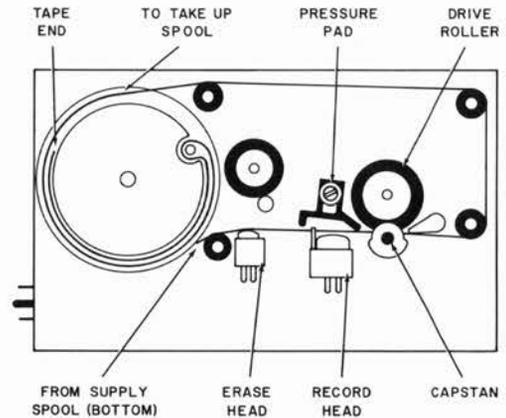
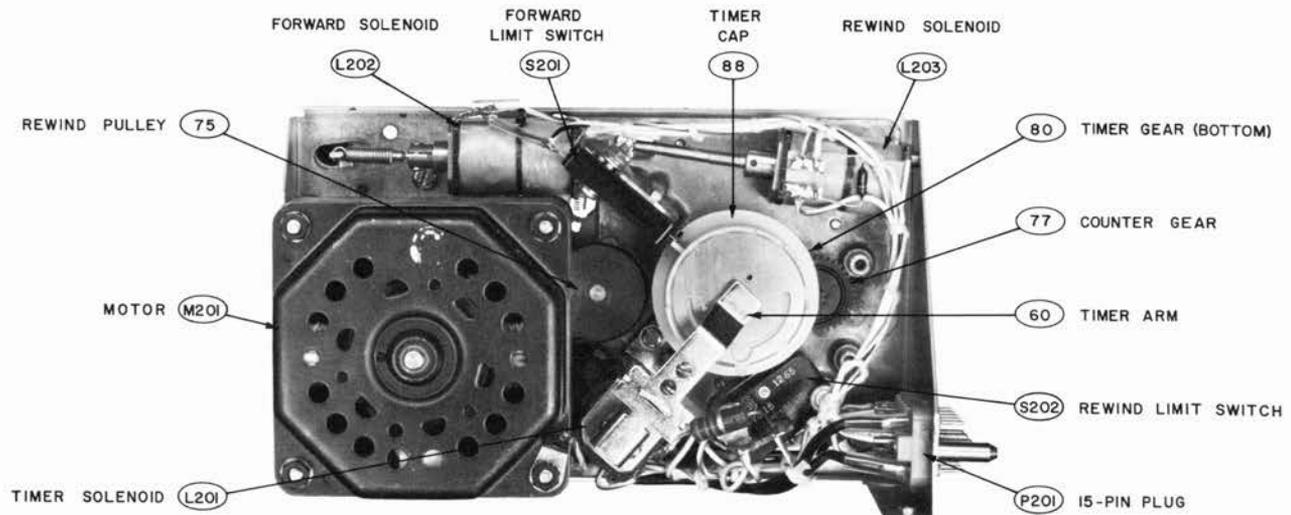

FIGURE 10 RECORDING TAPE PATH
FIGURE 11 TAPE DECK REAR VIEW
- (1) Wind 35 feet or 64 turns of 3M Brand No. 591 recording tape onto supply spool. Connect to spool in the manner shown in fig. 10, but wind the tape counterclockwise, with the oxide (dull) side facing outwards.
- (2) Make sure that timer roller on timer gear is midway between rewind limit switch and counter gear (fig. 11).
- (3) Replace supply spool, making sure that it meshes with its drive pin. Leave approximately 2 feet of tape free.
- (4) Thread tape as shown in fig. 10. Do not secure free end yet.
- (5) Replace plastic washer.
- (6) Replace take up spool, making sure that end of clock spring hooks onto pin on supply spool.
- (7) Holding supply spool, wind take up spool clockwise to wind up clock spring until definite resistance is felt (25 to 30 turns) then unwind 10 turns.
- (8) Connect free end of tape as shown in fig. 10.
- a. Remove 4 nuts and motor, disengaging motor belt (fig. 11).
Operate forward solenoid (fig. 11) by depressing plunger by hand. Loosen clamp screw and adjust pressure pad so that tape wraps lightly around record head. Be sure that tape will not pinch between pressure pad and record head or head mount.
- b. Forward solenoid (fig. 11):
- c. Rewind solenoid (fig. 11):
- d. Timer solenoid (fig. 11):
Operate machine in REC. function. When START button is depressed, timer cap should lift 1/32" to 3/64" to disengage from timer gear. Adjust by bending timer arm (fig. 11).
3. Operates timer solenoid L201, releasing timer cap from its mating timer gear to reset the variable forward limit switch actuator to its zero position (fig. 11).
The recording tape winds from the supply spool, past erase head H201 and record head H202, and onto the take up spool (fig. 10). The supply and take up spools are mechanically coupled internally through a clock spring to maintain proper tension on the tape. After approximately 2 seconds, the timer roller on the timer gear releases rewind limit switch S202 (fig. 11).
4. Releases timer solenoid L201 to lock timer drum to timer gear (fig. 11). This sets the variable limit switch actuator so that subsequent message reproduction is limited to the recorded interval only.
When the tape has been completely rewound, the timer roller on the timer gear operates rewind limit switch S202 (fig. 11).